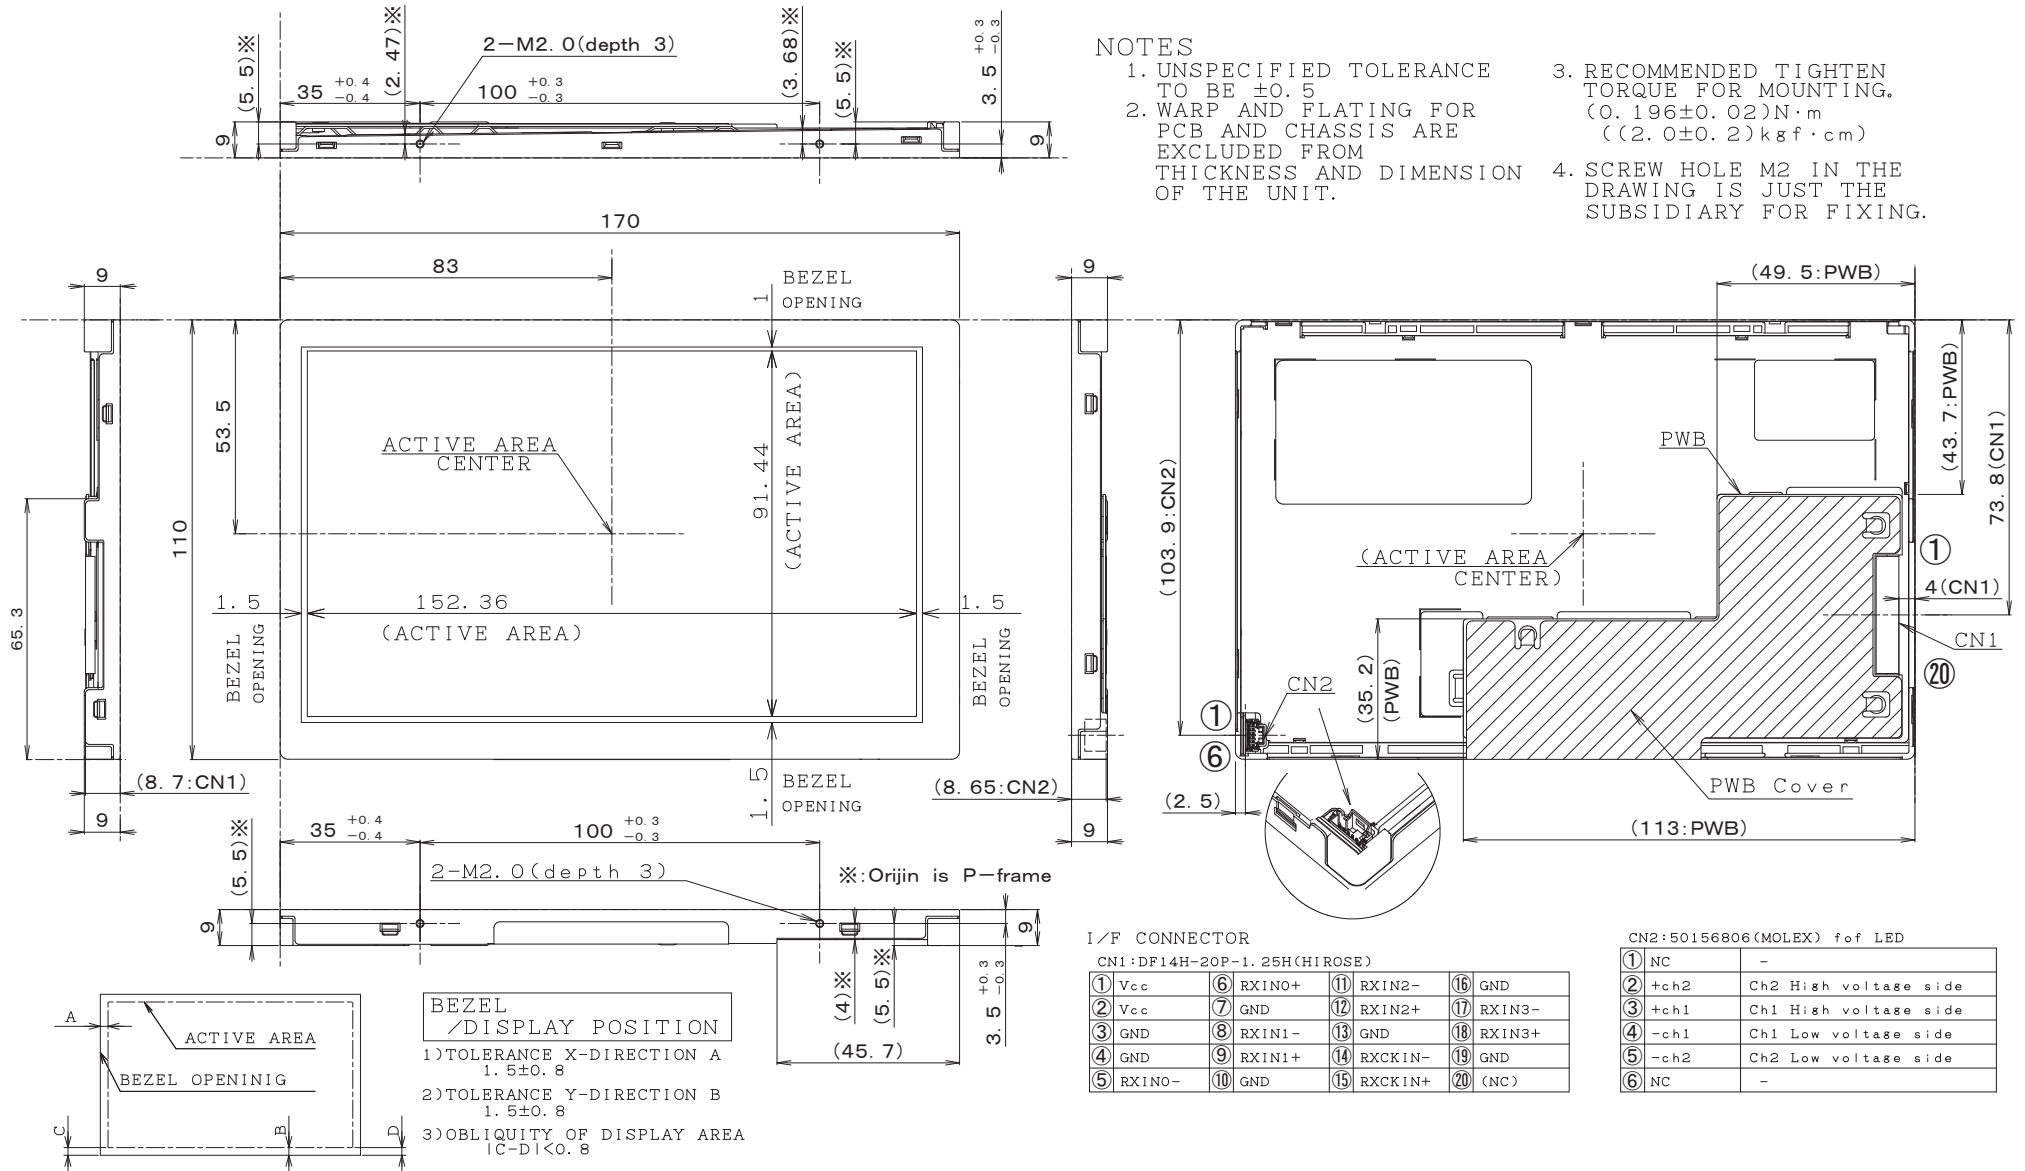

Fig. 1 OUTLINE DIMENSIONS LQ070Y3LW01
- t ) Screw hole M2 in the Fig.1 is just the subsidiary for fixing.